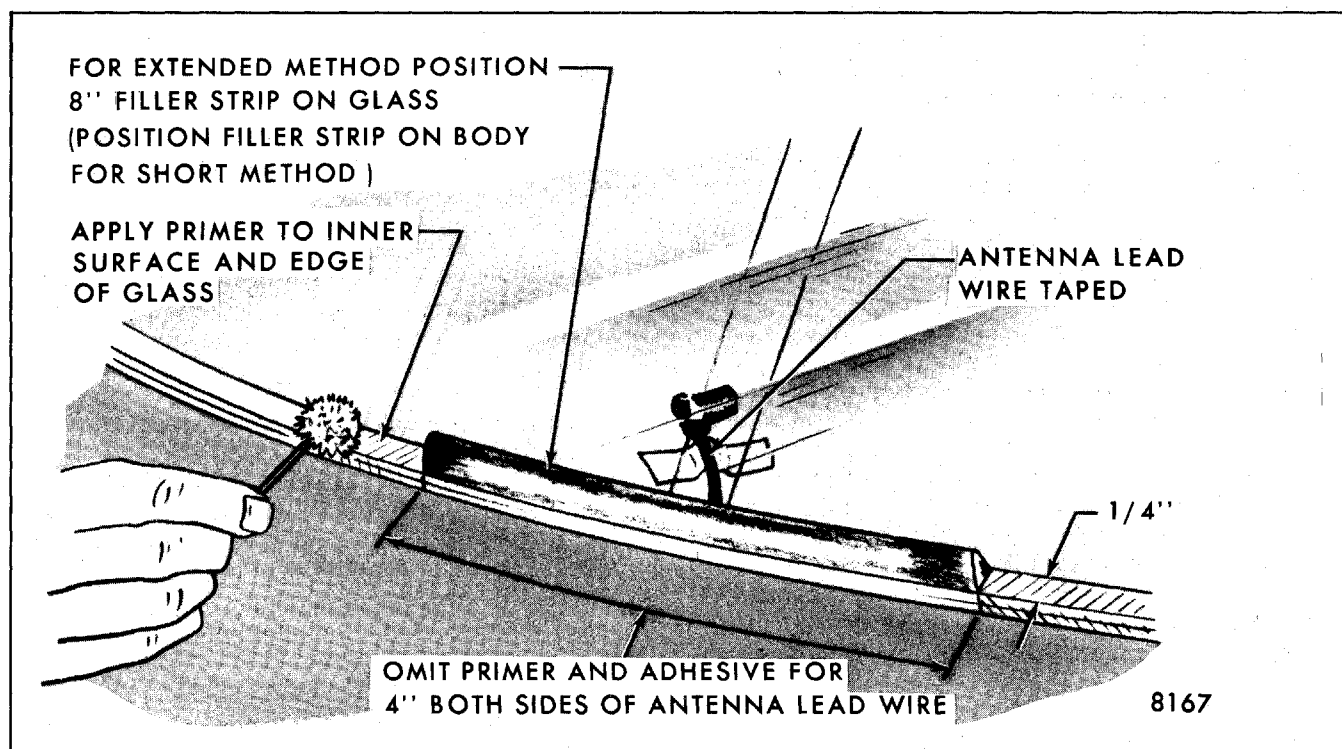

Fig. 11-11-Embedded Windshield Antenna Installation
- a. On windshields equipped with embedded antenna, apply primer around periphery of glass as shown in Figure 11-11. Do not apply primer between marks established in step 3. Allow primer to dry 5 minutes.
- b. On windshields without embedded antenna and other stationary glass, apply primer around entire perimeter of glass edge and 6 mm (1/4") inboard on inner surface as in partial application of primer as shown in Figure 11-11. Allow primer to dry 5 minutes.
9. After final adjustments have been made and glass is in proper position, apply pieces of masking tape over edges of glass and body, slit tape at edge of glass. Tape on glass can be aligned with tape on body to guide glass into opening during installation. Remove glass from opening. When replacing windshield equipped with embedded antenna, position new filler strip provided in kit on bottom center of windshield inner surface as shown in Figure 11-11.
- a. On windshield equipped with embedded antenna, apply primer around periphery of glass as shown in Figure 11-11. Do not apply primer at location of filler strip applied in step 9. Allow primer to dry 5 minutes.
- b. On windshields without embedded antenna and other stationary glass, apply primer to entire perimeter of glass edge and 6 mm (1/4") inboard on inner surface as shown in Figure 11-11. Allow primer to dry for 5 minutes.